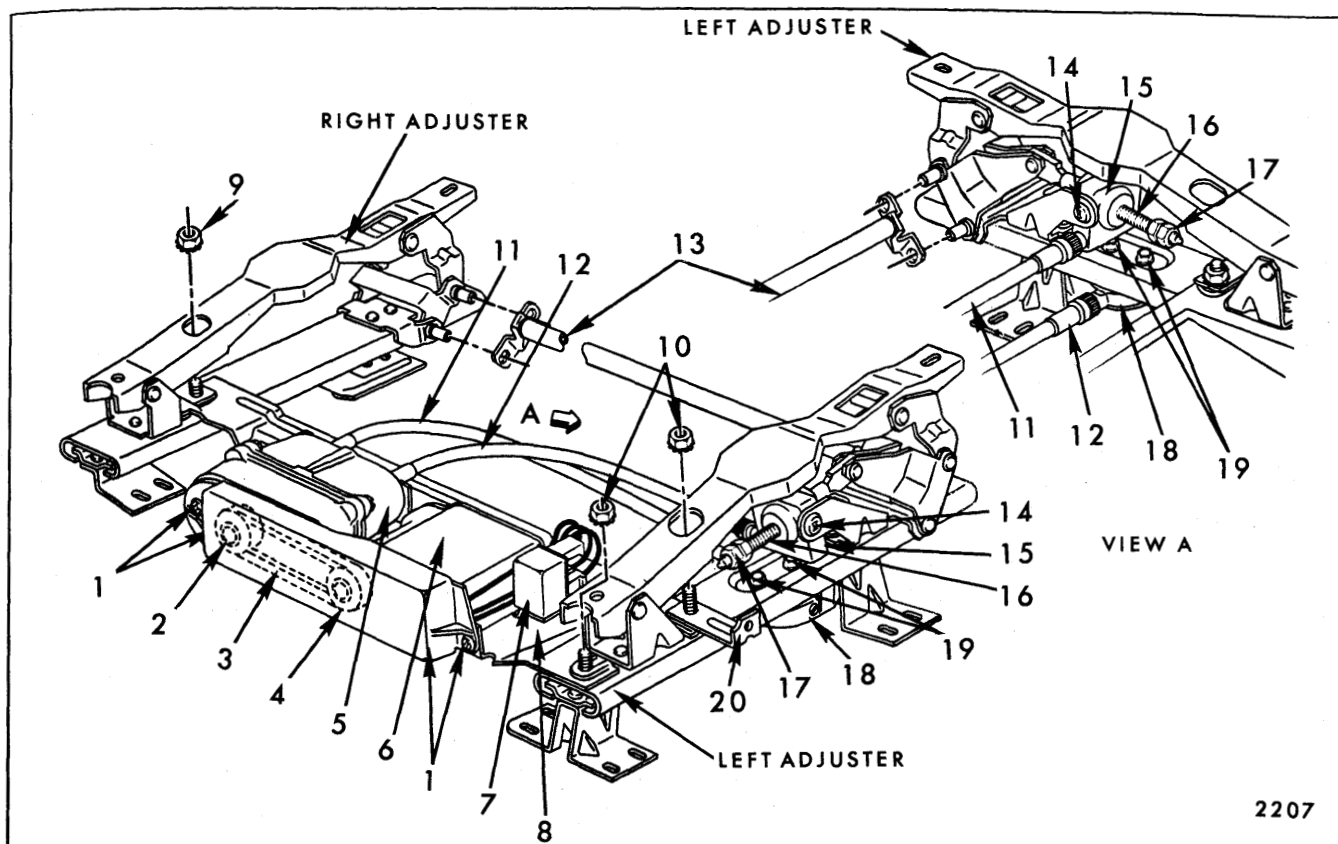

Fig. 10-37—Four-Way Bucket Seat Adjusters
4. Remove nuts securing motor and transmission support to adjuster being removed (Fig. 10-37).
1. At front of seat motor and transmission drive belt cover remove attaching screws (Fig. 10-37) and remove cover.
2. Remove drive belt (Fig. 10-37) from both motor and transmission drive pulleys. Pulleys may be removed from either motor or transmission by pulling pulleys off their respective shaft.
3. Remove motor and transmission drive belt cover and remove drive belt (Fig. 10-37).
3. Using a clutch type screwdriver or other suitable tool, remove shoulder screws securing linkage to vertical gearnut (Fig. 10-37).
4. Remove jackscrew "down" stop from jackscrew (Fig. 10-37).
3. As a bench operation, remove jackscrew-to-adjuster linkage attaching rivet and remove jackscrew from adjuster assembly (Fig. 10-37).
2. Using a clutch type screwdriver or other suitable tool, remove shoulder screws securing linkage to vertical gearnut (Fig. 10-37).
5. Remove screws securing horizontal actuator assembly to adjuster lower track; then remove actuator from adjuster assembly (Fig. 10-37).